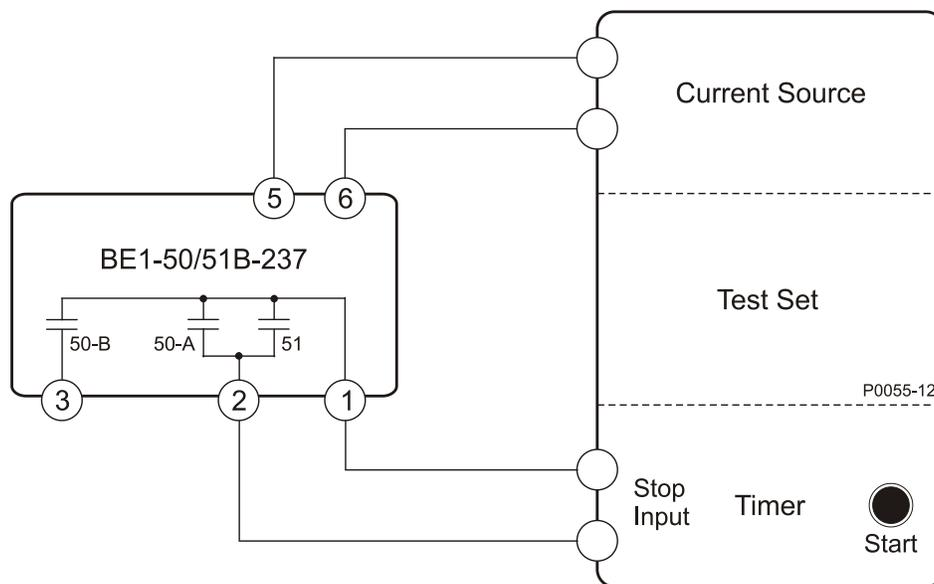

Figure 5-1. 51 Pickup, Time Dial, Integrating Reset, and 50-A Pickup Test Setup
The following test procedures verify operation of the BE1-50/51B-237 and BE1-50/51B-238 relays. The test setups illustrated in Figures 5-1 through 5-6 are intended primarily as an illustration of the principles involved. Other test equipment known to be capable of testing with the stated and implied tolerances (including equipment designed specifically for testing protective relays) may be used.
- a. Connect the test setup shown in Figure 5-1.
- a. Connect the test setup as shown in Figure 5-1.